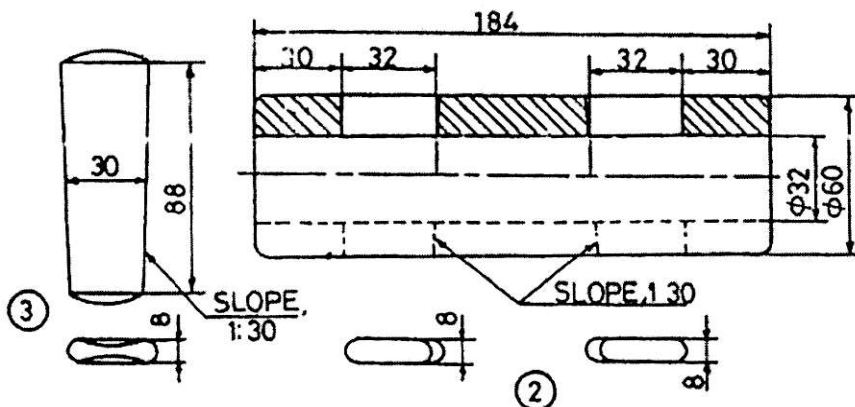

Fig. 1 : Details of Cotter Joint.
7. The details of cotter joint with sleeve are given in **Fig. 1**. Assemble the parts and draw the following views : 20